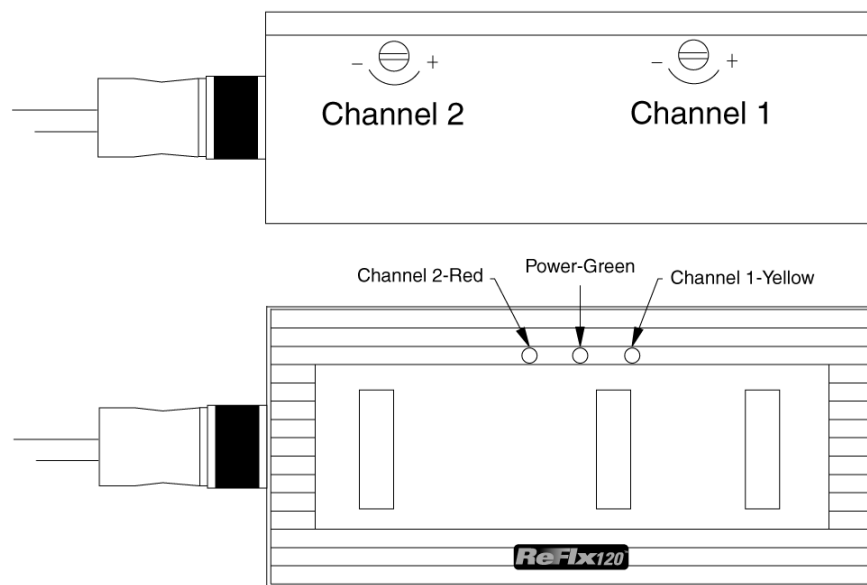

Figure 4.1 Two(2) Channel Sensor
1. Adjust the set screws on the sensor(s) counter-clockwise. The two (2) channel sensor will have a set screw for each channel on the top of the sensor. On this sensor, turn each set screw counter-clockwise until you hear or feel a “click.” See Fig. 4.1 Two\(2\) Channel Sensor on page 8.